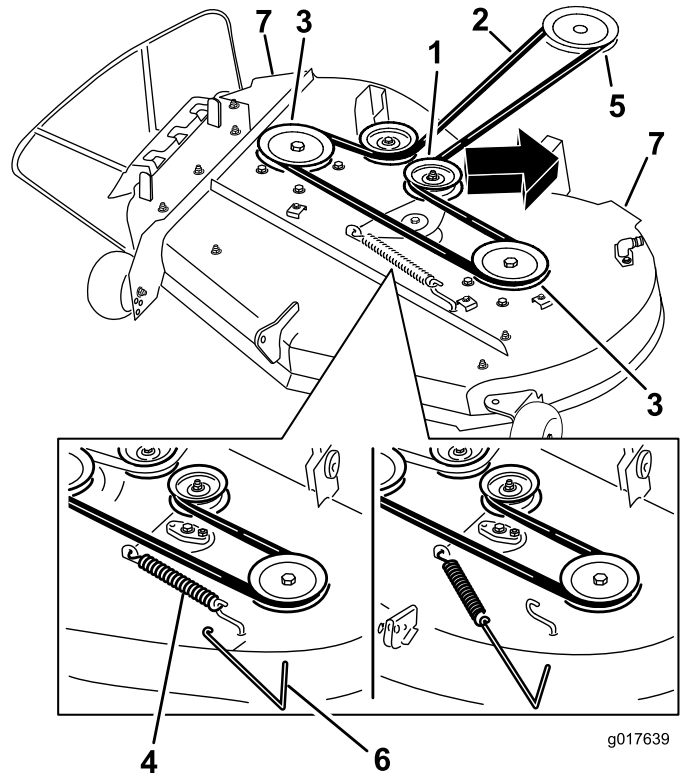

Figure 59
4. Using a spring removal tool, (Toro part no. 92-5771), remove the idler spring from the deck hook to remove tension on the idler pulley and roll the belt off of the pulleys (Figure 59).
5. Route the new belt around the engine pulley and mower pulleys (Figure 59).
6. Using a spring removal tool, (Toro part no. 92-5771), install the idler spring over the deck hook and placing tension on the idler pulley and mower belt (Figure 59).